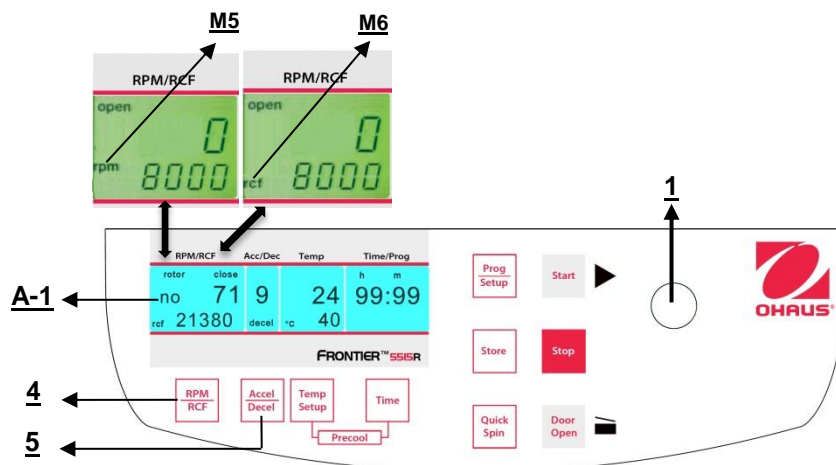

Figure. 16
This pre-selection is activated through the key **"RPM | RCF"** (4) (refer to figure 16 below). By pressing the key once the word **"rpm"** (M5) flashes. By pressing the key twice the pre-selection of the centrifugal forces can be selected. Then the flashing word **"rcf"** (M6) appears. You can set the